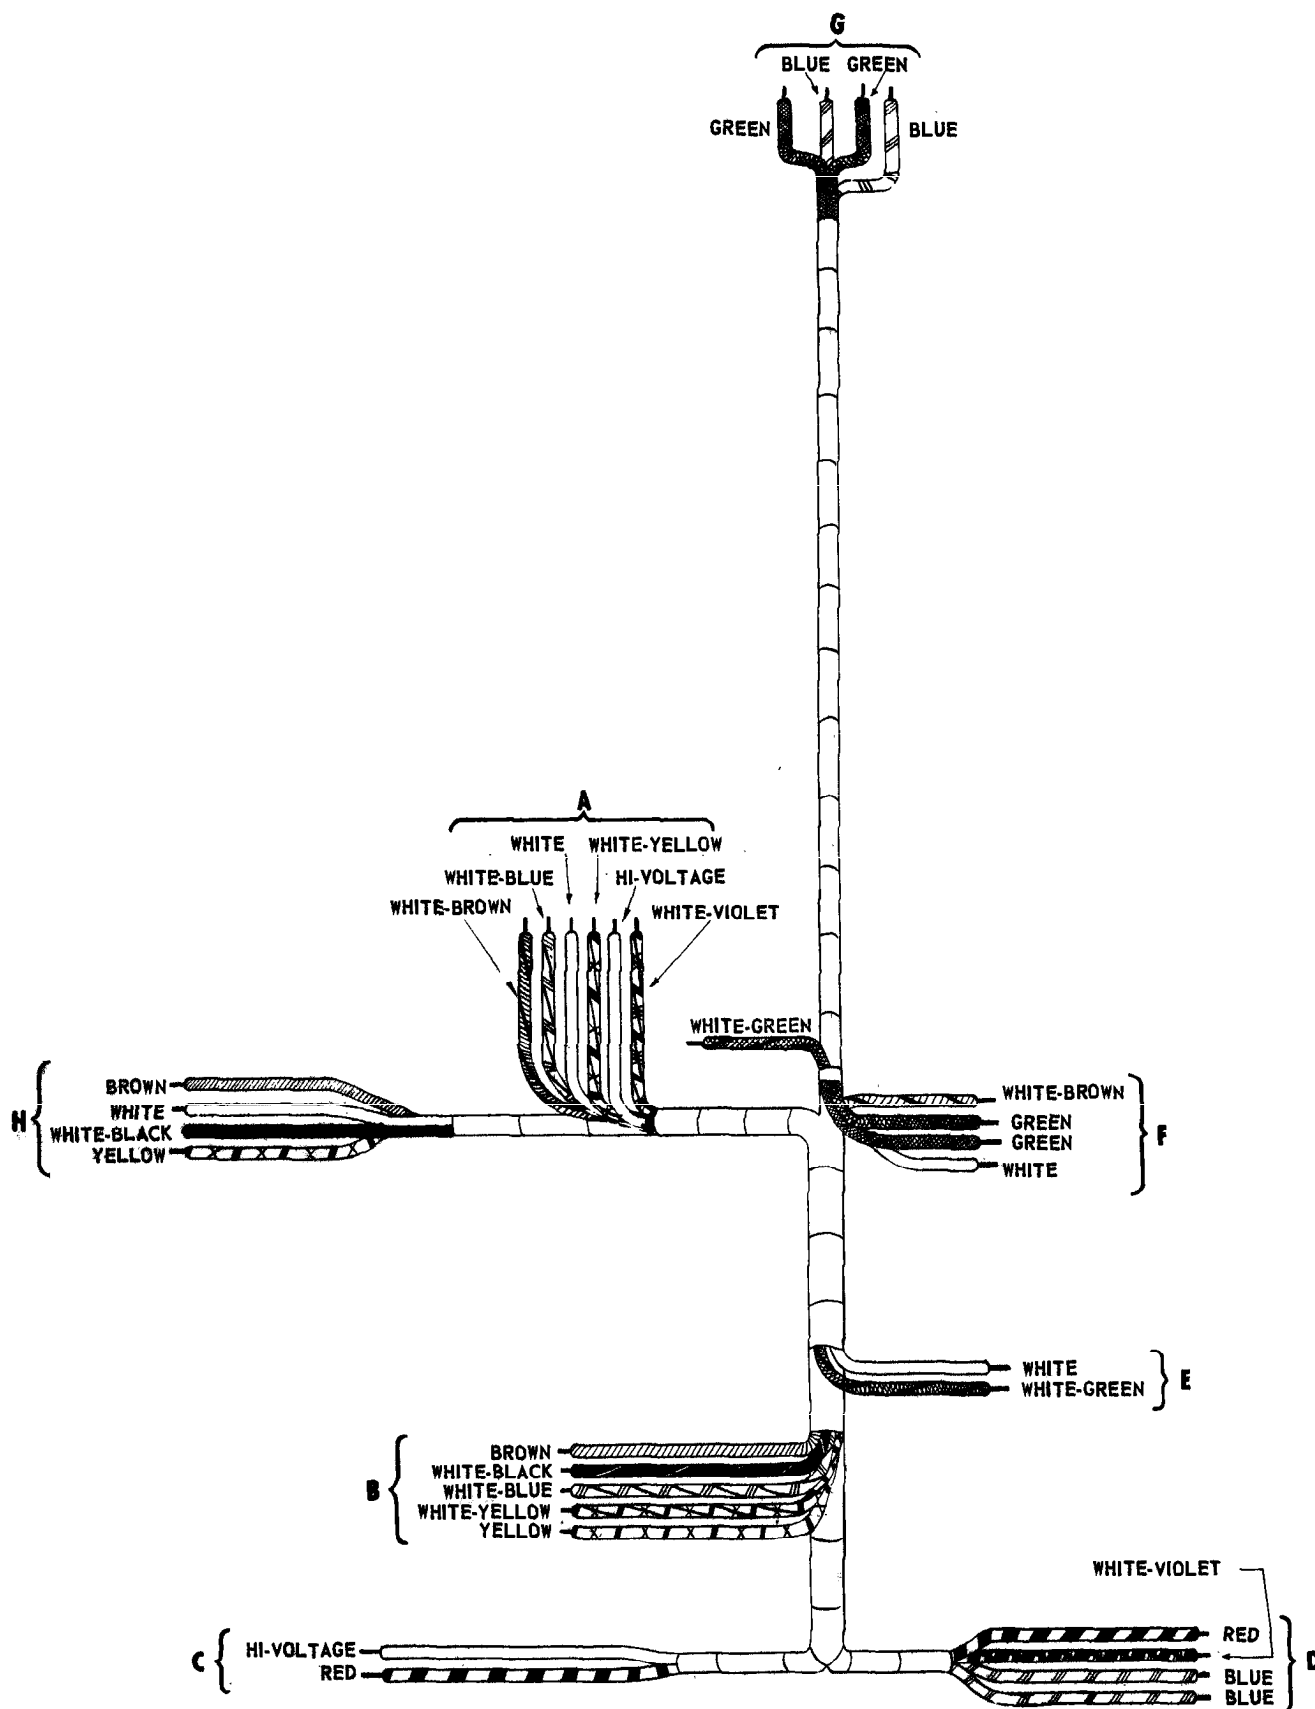

Figure 18. Large Wiring Harness.
- ☐ 19. Select the largest cabled harness assembly. Lay it on a flat surface and straighten the wires on all branches so the colors may easily be identified. When ready for installation, the harness should appear as shown in Fig. 18.